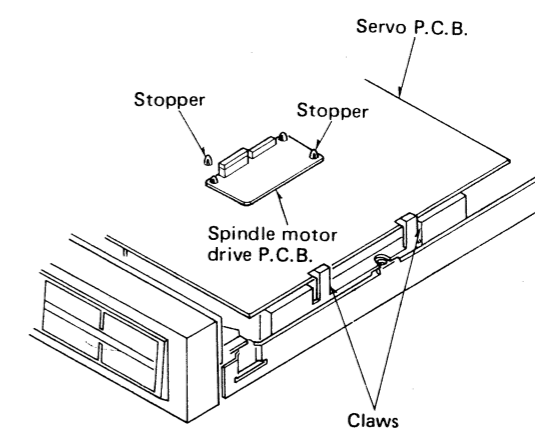

Fig. 26
2. Check each part. [Fig. 26]
3. To check soldered parts, remove stopper and turn over the P.C.B. [Fig. 26]